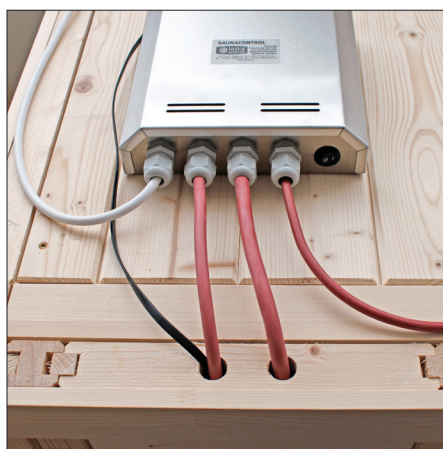

Fig. 4
- IV. Next, use a pulling aid to lead the black connecting cable through the drilled hole onto the roof and connect it to the power unit (Fig. 4).